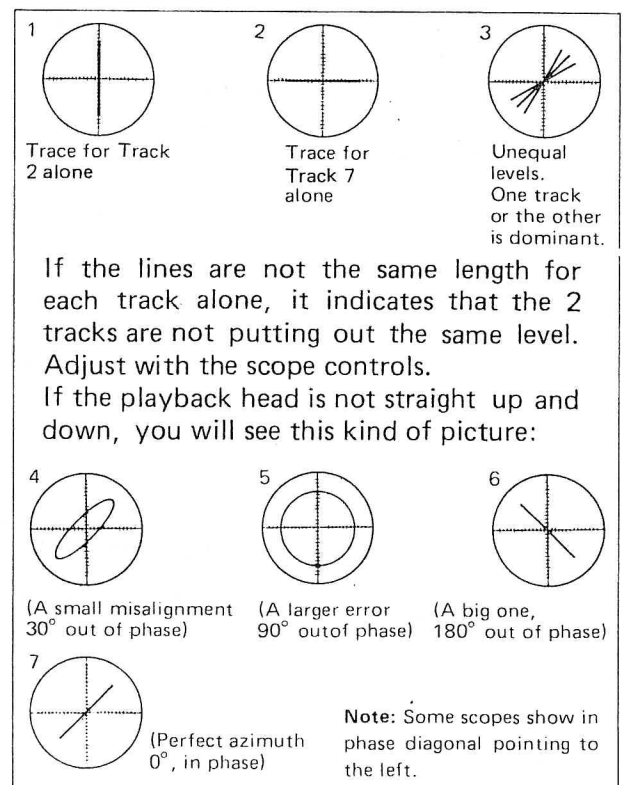

Fig. 1-3-7
6. Reproduce the 10-kHz signal on the test tape. A picture showing phase relations between both channels will be obtained on the oscilloscope as shown in Fig. 1-3-7.